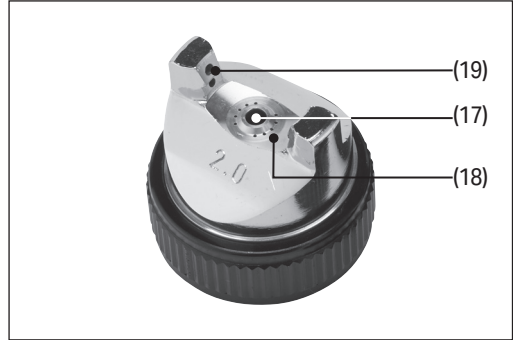

Fig. 13
The air cap (1) has three types of opening that affect the pattern of the fluid spray (Fig. 13):
- A hole for the nozzle head from which the fluid is dispersed (17).
- Atomising air holes (18) that break the fluid into a fine spray.
- Air horn holes (19) that shape the spray pattern as required.